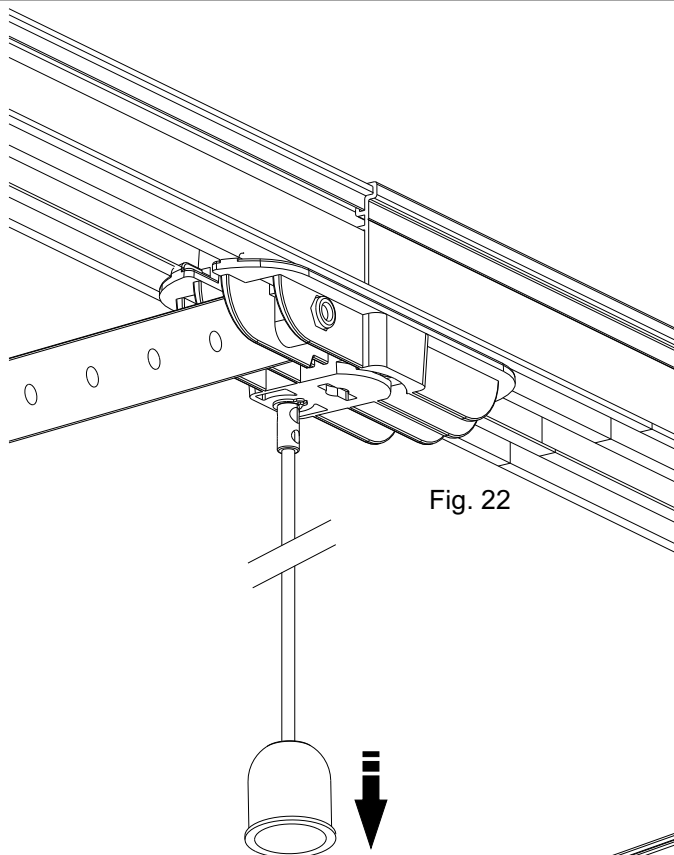

Fig. 22
- Pull the release knob and open the door manually (Fig. 22).